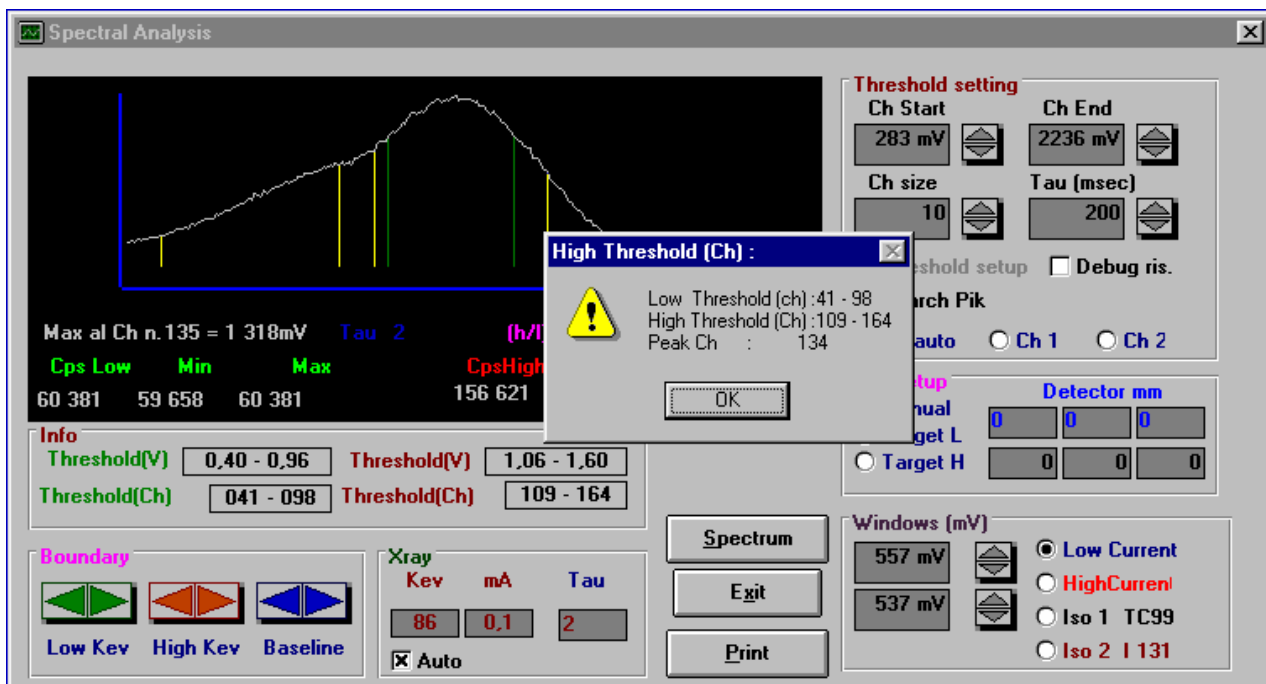

Figure II-2 : Spectrum after clicking on "Search Peak"
- Click on [Search Peak] in the “Threshold setting” window to obtain Figure II-2. The “Low Threshold (Ch)” and respectively the “High Threshold (Ch)” in the “search peak” window have to be very close to the “Threshold (Ch)” in the “Info” window of the “Spectrum Analysis”. The Peak channel must be at 134 +/- 2 channels.